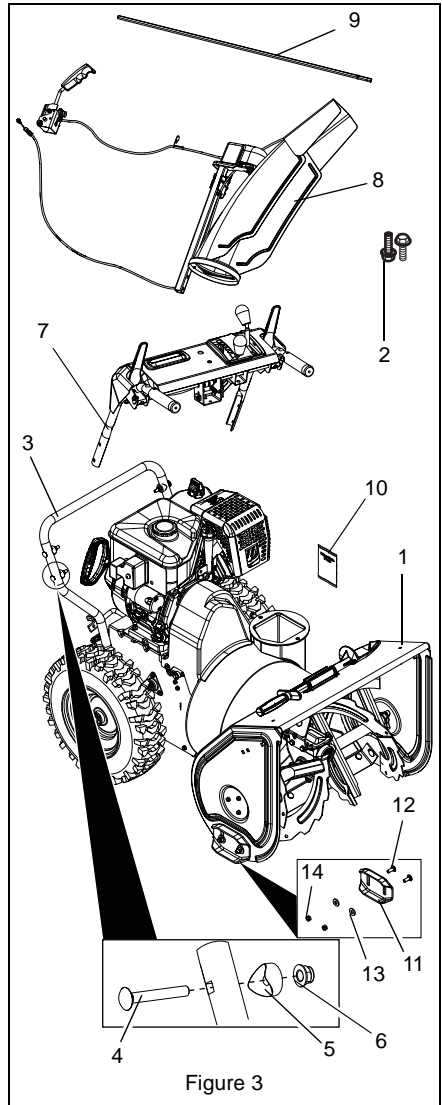

Figure 3
Check the contents of your package for the parts listed below (Figure 3):
2. Secure lower handlebar to unit using two $3/8 \times 3/4$ " hex head serrated flange grade 5 bolts (Figure 3, Item 2).